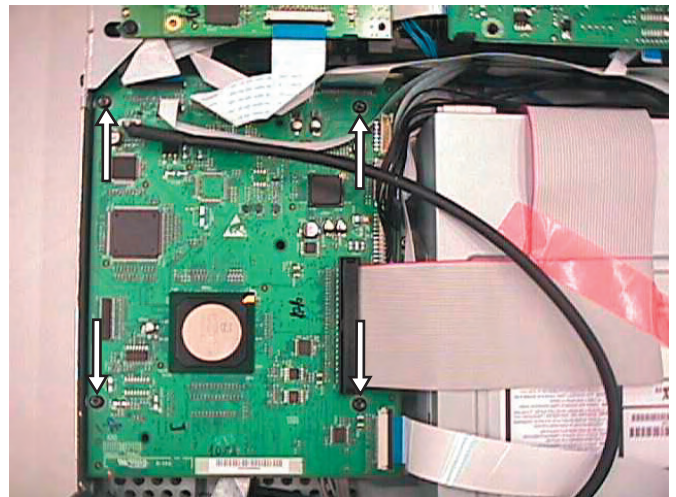

Figure 4-9
- 1) Remove 4 screws to loosen the Digital Board 1004 as shown in Figure 4-9.